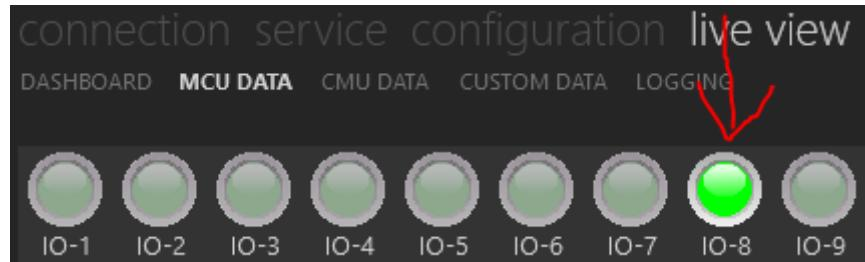

Figure 66 : GPIO Digital Input enabled via temperature sensor input
- c) Short circuit (grounding) of the temperature sensor input will activate the digital GPIO input port that can be verified in BMS Creator as shown in Figure 66 :